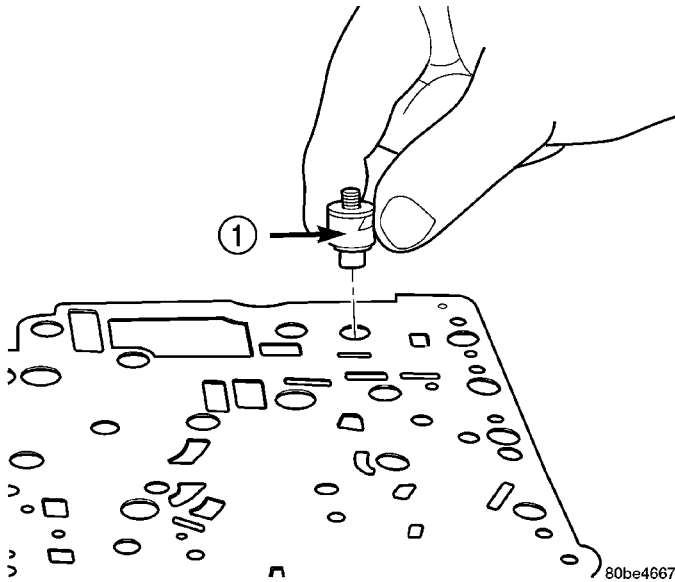

Fig. 339 Install Overdrive Clutch (#5) Check Valve
(8) Install the overdrive clutch (#5) check valve to separator plate (Fig. 339)